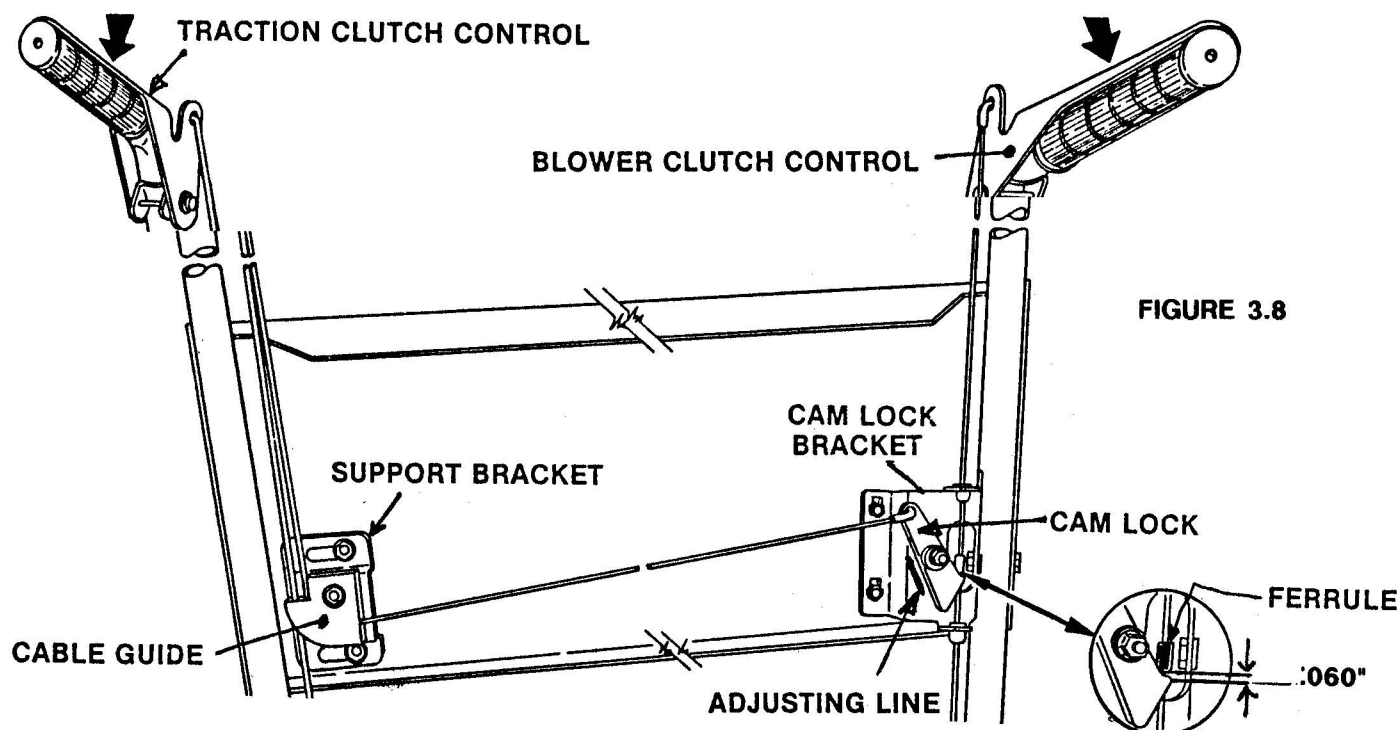

FIGURE 3.8
If the clutch controls need readjusting, turn engine off and reset as follows (Refer to figure 3.8):
(B) With the traction clutch held down, move the blower clutch control against handle and tie down in this position. The ferrule (shown in the inset of figure 3.8) must be located about 1/16" (.060" exact) above the hook of the cam lock. To adjust, loosen the 3 fasteners on the cam lock bracket and slide the bracket up or down until the setting is correct then retighten the 3 fasteners on the cam lock bracket and slide the bracket up or down until the setting is correct then retighten the 3 fasteners. Be sure to untie both handles after adjusting.